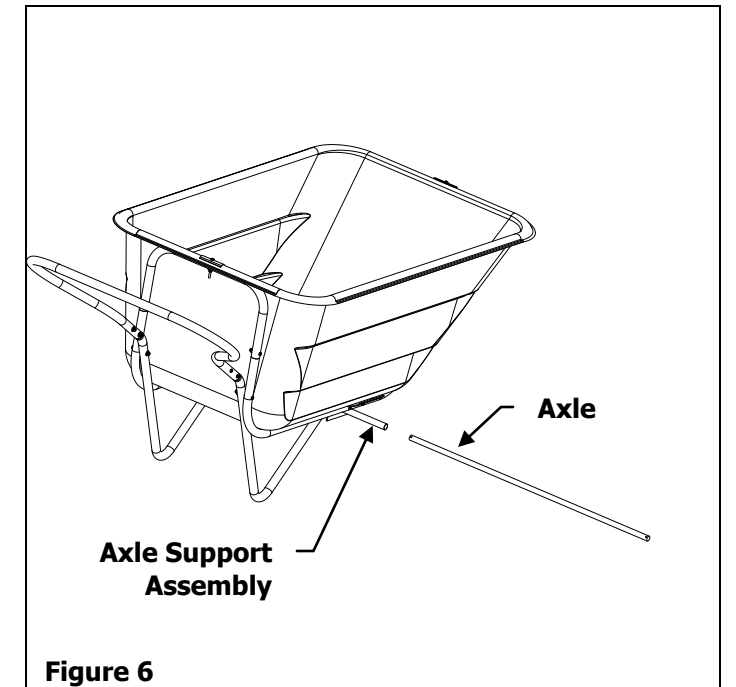

Figure 6
8. Slide Axle into Axle Support Assembly. See Figure 6.